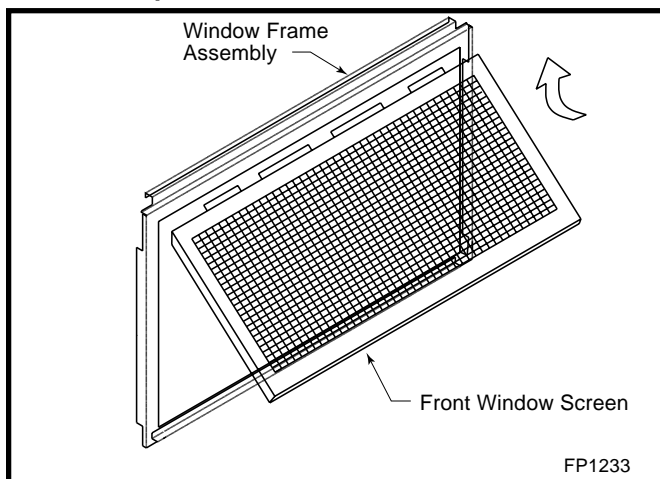

Fig. 55 Front window screen.
**Installation** Refer to Figure 55